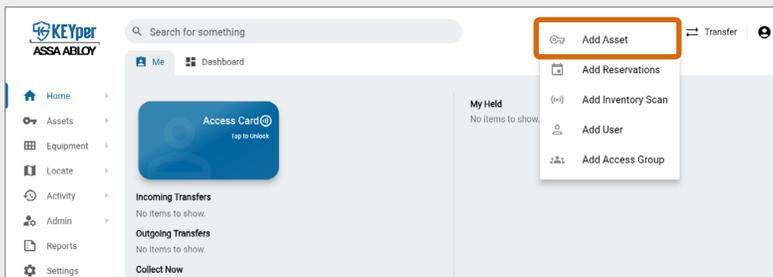

Fig. 66 – Select Add Asset from the Add menu
2. Click **Add** , then click **Add Asset**, as shown in Fig. 66.